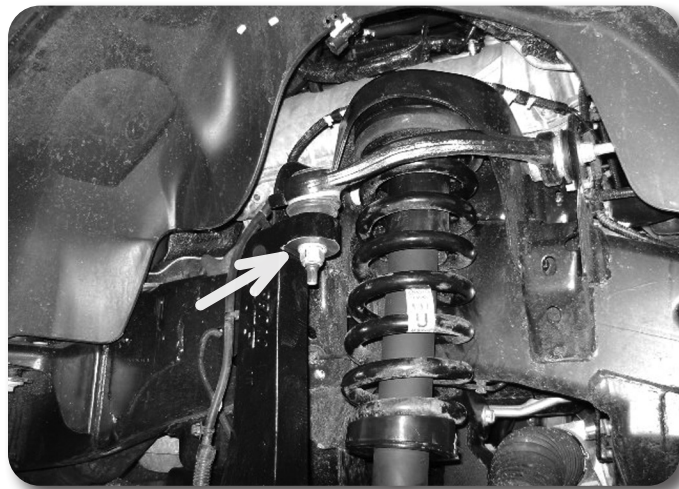

Figure 7
19. Reattach knuckle to upper control arm with OE ball joint nut. Torque upper ball joint to 85 ft-lbs **Figure 7**.